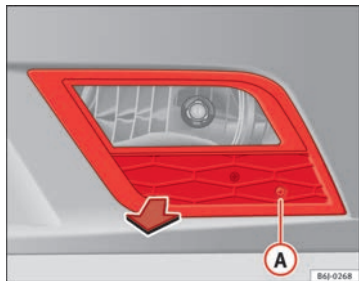

Fig. 140 Front fog light
- Remove the bolt => Fig. 140 **A** from the fog light grille with a screwdriver.